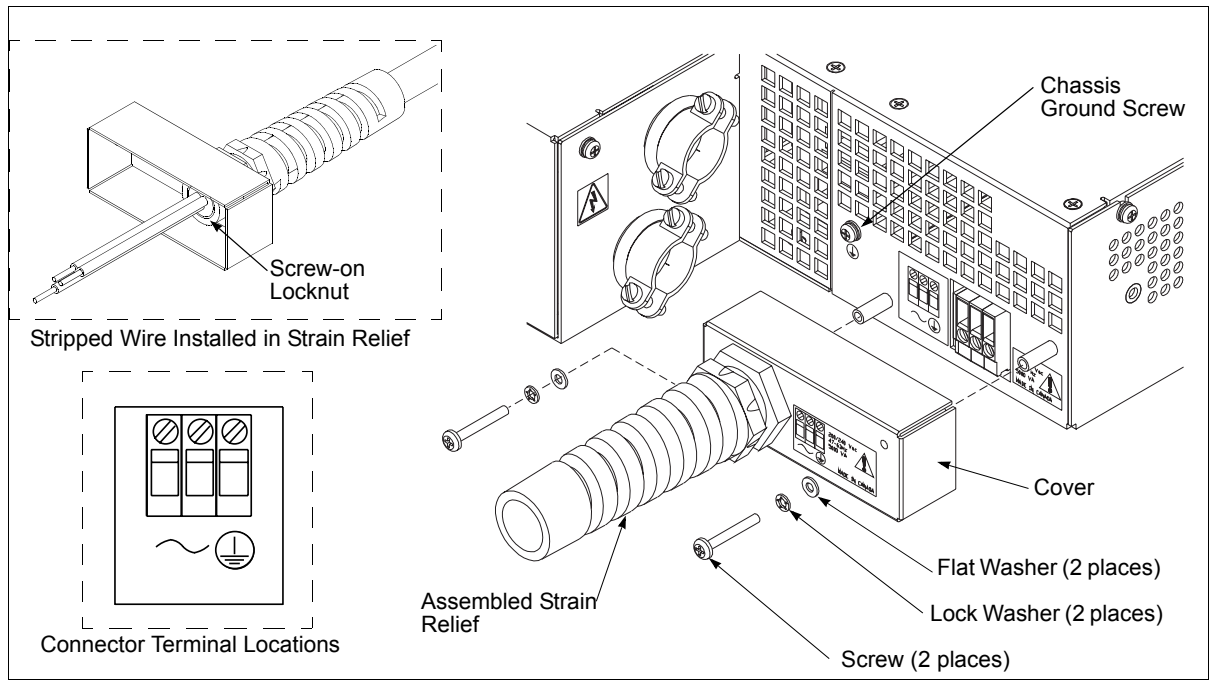

Figure 2.2 AC Input Cover and Strain Relief
2. Ensure that the packing box contains the AC input cover and strain relief kit (see Figure 2.2).
The AC input connector is a 3-terminal wire clamp located on the power supply's rear panel. See Figure 2.2 AC Input Cover and Strain Relief. See Table 2.2 for the input voltage ranges and frequency required to operate the power supply.
1. Strip the outside insulation on the AC cable approximately 4 in. (10 cm). Trim the wires so that the ground wire is 0.5 in. (12 mm) longer than the other wires. Strip 0.55 in. (14 mm) at the end of each of the wires. See Figure 2.2 detail (top).
4. Route the AC wires to the input connector terminals as required. For input connector terminal locations, see lower inset in Figure 2.2. To connect the wiring, loosen the terminal screw, insert the stripped wire into the terminal, and tighten the screw securely.
5. Route the wires inside the cover to prevent pinching. Fasten the AC input cover to the unit using the (6-32 x 1 1/4 in. (2)) screws, flat washers, and lock washers provided. See Figure 2.2.